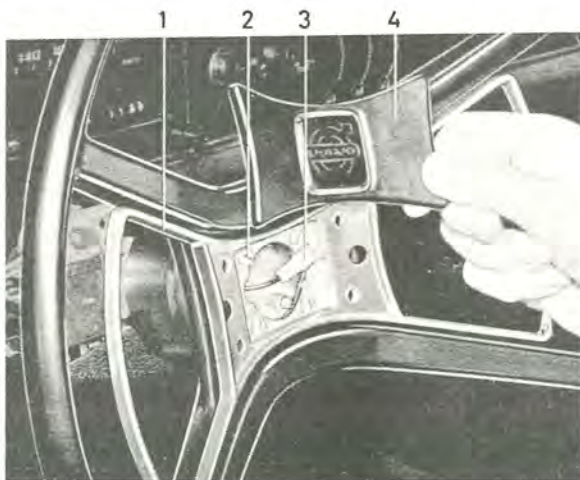

Fig. 6-45. Horn components
2. Bend loose the impact protection (4, Fig. 6-45). Disconnect the horn cable (3). Unscrew the attaching screws (2) and lift forward the horn ring (1). Take care of springs and washers.